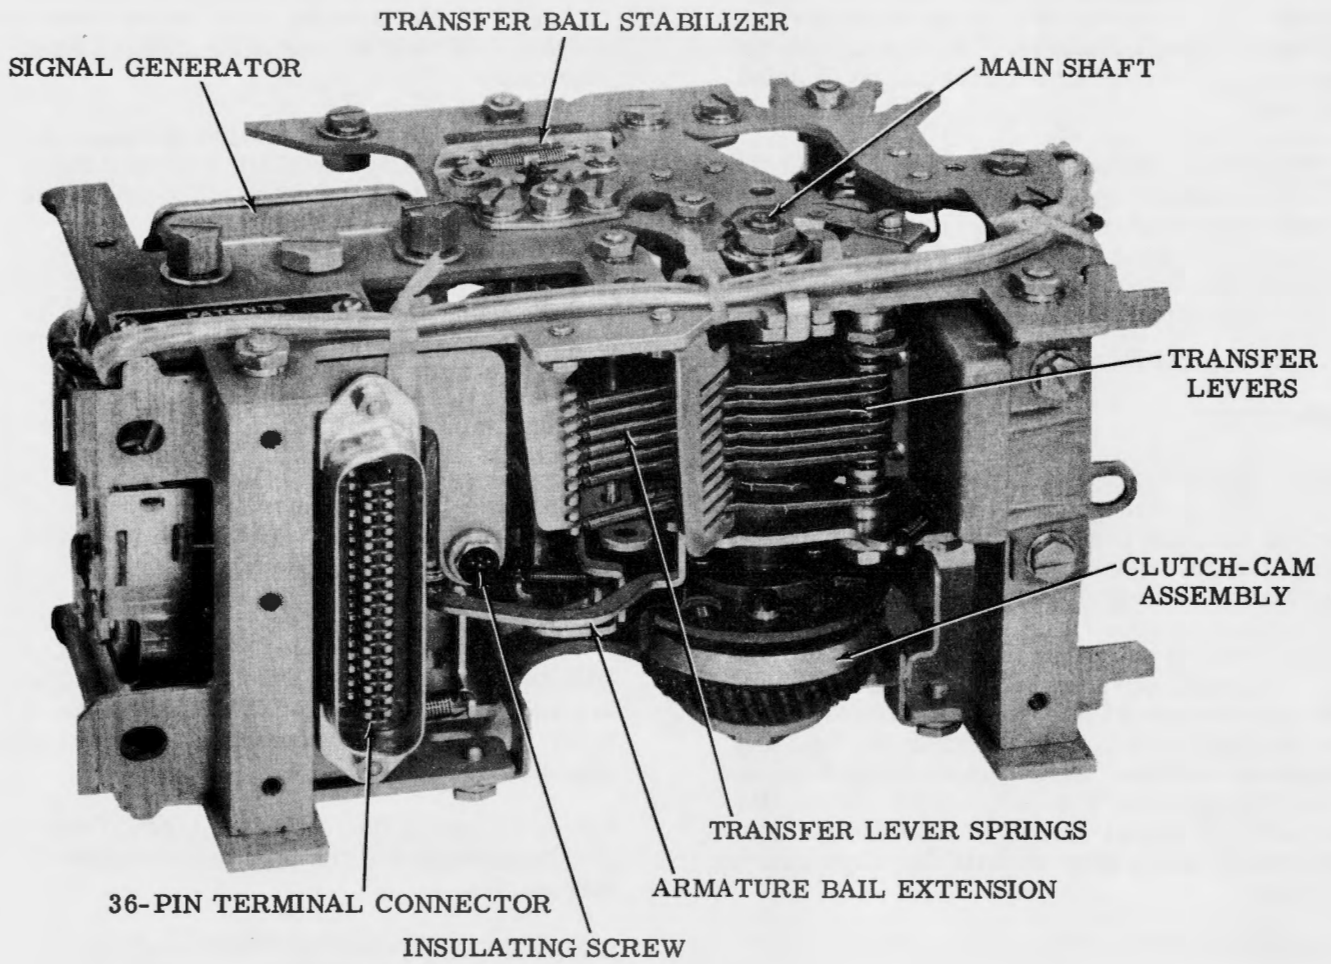

Figure 3 - Transmitter Distributor Unit (Bottom View)
- (e) A quick disconnect 36-pin terminal or plug which aligns with its mate on a base, facilitates making electrical connections (Figure 3).
- (f) A nylon insulating screw is mounted on the connector bracket and adjusted to align with, and actuate the "Line Shunt Switch" on the associated base (Figure 3).